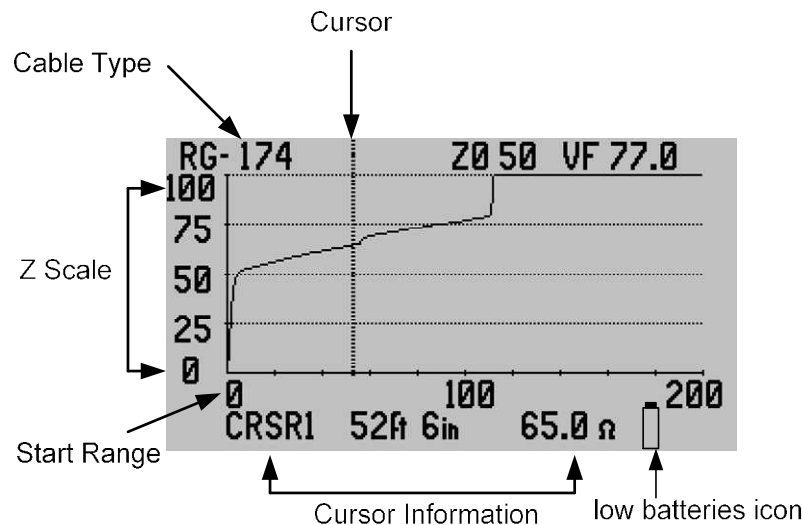

Figure 1-3
## Measurement Screen (figure 1-3)
**Note:** If the TDR's menu cursors stop responding, the measurement screen does not show correctly, or any other failures to perform correctly occur, the TDR's firmware may need to be reset. The Soft Reset (similar to rebooting a PC) function performs several housekeeping functions and restores the TDR to factory default values. It will NOT erase saved traces or changes to the Cable List. The low battery icon's operation is not affected. It will still appear and blink to warn about a low battery condition. See figure 1-3.